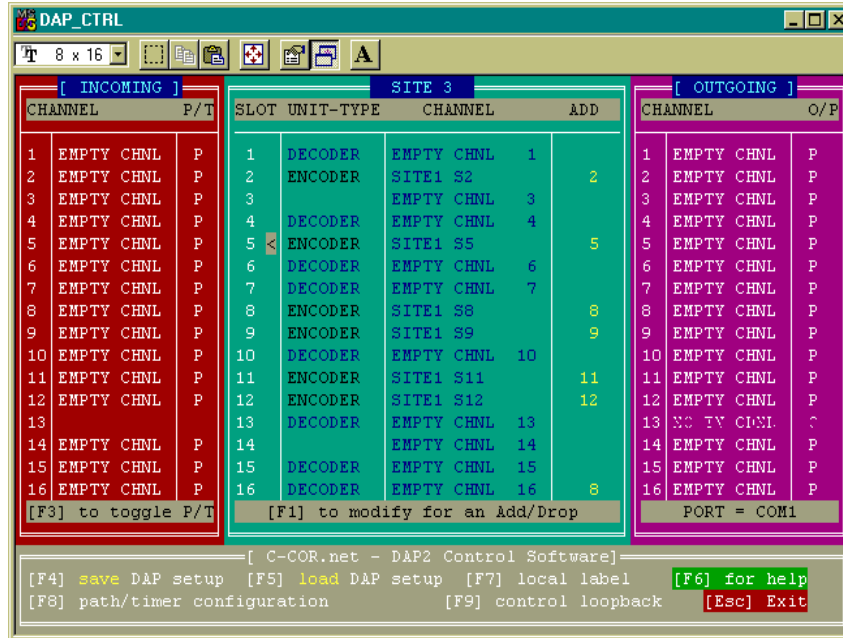

Figure DLP2-3. DAP Control Screen
5. Press **F1** to enter the DAP Control Screen, shown in Figure DLP2-3. In the middle field of the DAP Control Screen, the cursor travels down the screen as it polls each equipment slot. Allow at least one full polling of the equipment shelf before beginning any other task.